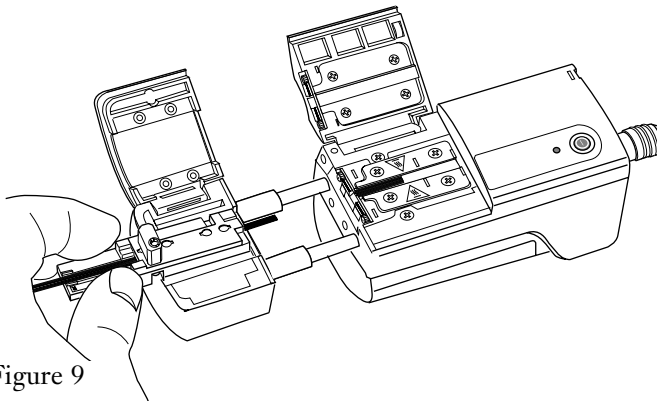

Figure 9
**4.6** Open the flaps and remove the handler (Figure 9).